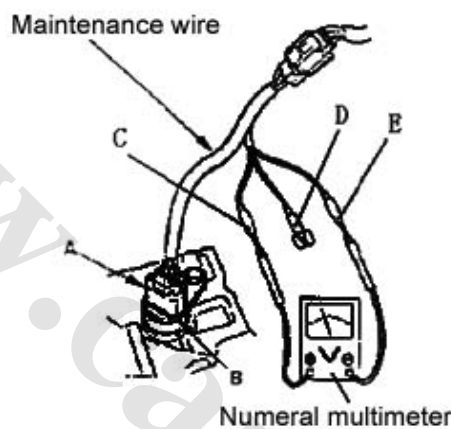

Fig. 4-26
1. Check the speedometer as shown in Fig. 4-26.